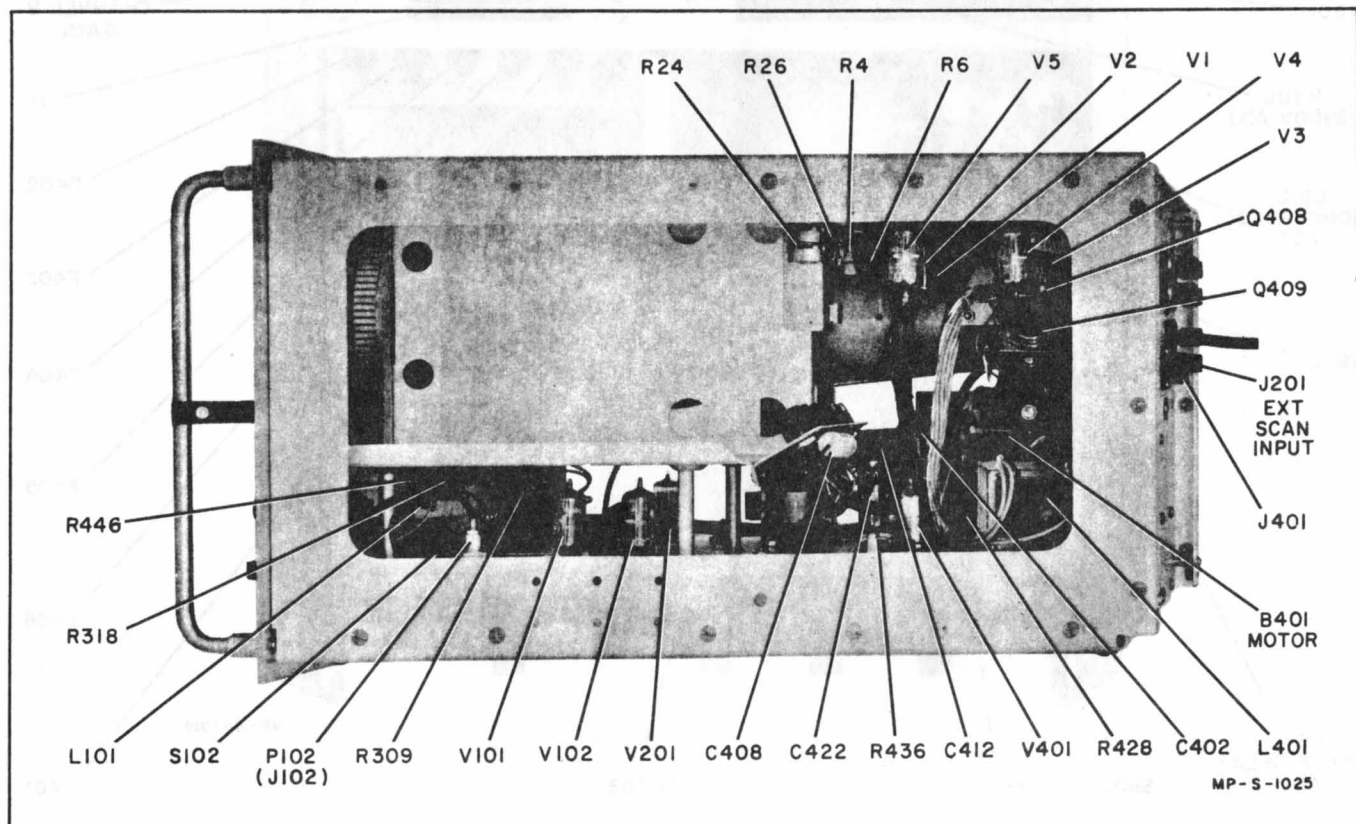

Figure 5-8. Right Side View, Model 185B
- (1) Connect signal generator (608D) to trigger input and to vertical input probe as in figure 5-8. Apply a 300-mv peak-to-peak, 100-mc signal.
- (2) Set TIME SCALE to 100 NSEC/CM.
- (3) Trace should appear with proper adjustment of MODE and STABILITY controls.
- (1) Connect signal generator (612A) to trigger input and to vertical input probe as in figure 5-8. Apply a 150-mv peak-to-peak, 1000-mc signal.
- (2) Steady display should appear with proper adjustments of MODE, STABILITY and HIGH FREQUENCY STABILITY controls.